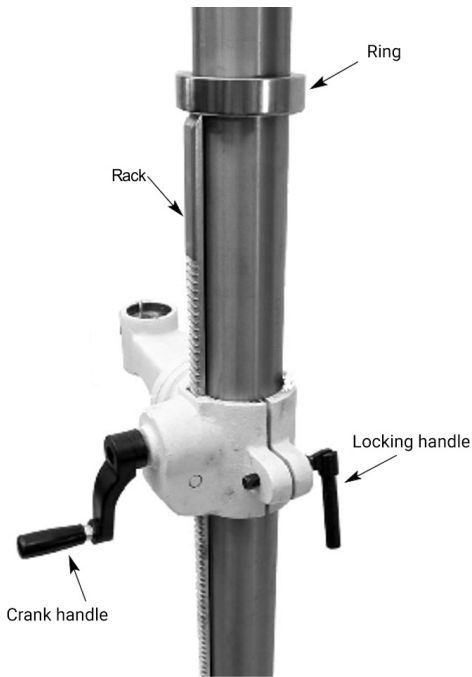

Figure 7 - Attach retaining ring, crank handle and locking handle.
- **Rotate the work table:** Loosen the table lock knob and rotate the table to the desired position and tighten the handle. (See Figure 7).